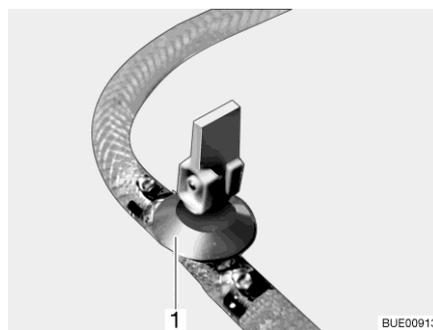

Fig. 137 Drain cock
- Close the drain cock(s). Position the rocking lever (Fig. 137,1) horizontally.
- Open drain cock(s) (Fig. 137). To do so, set the rocking lever (Fig. 137,1) in a vertical position. The boiler is drained to the outside.